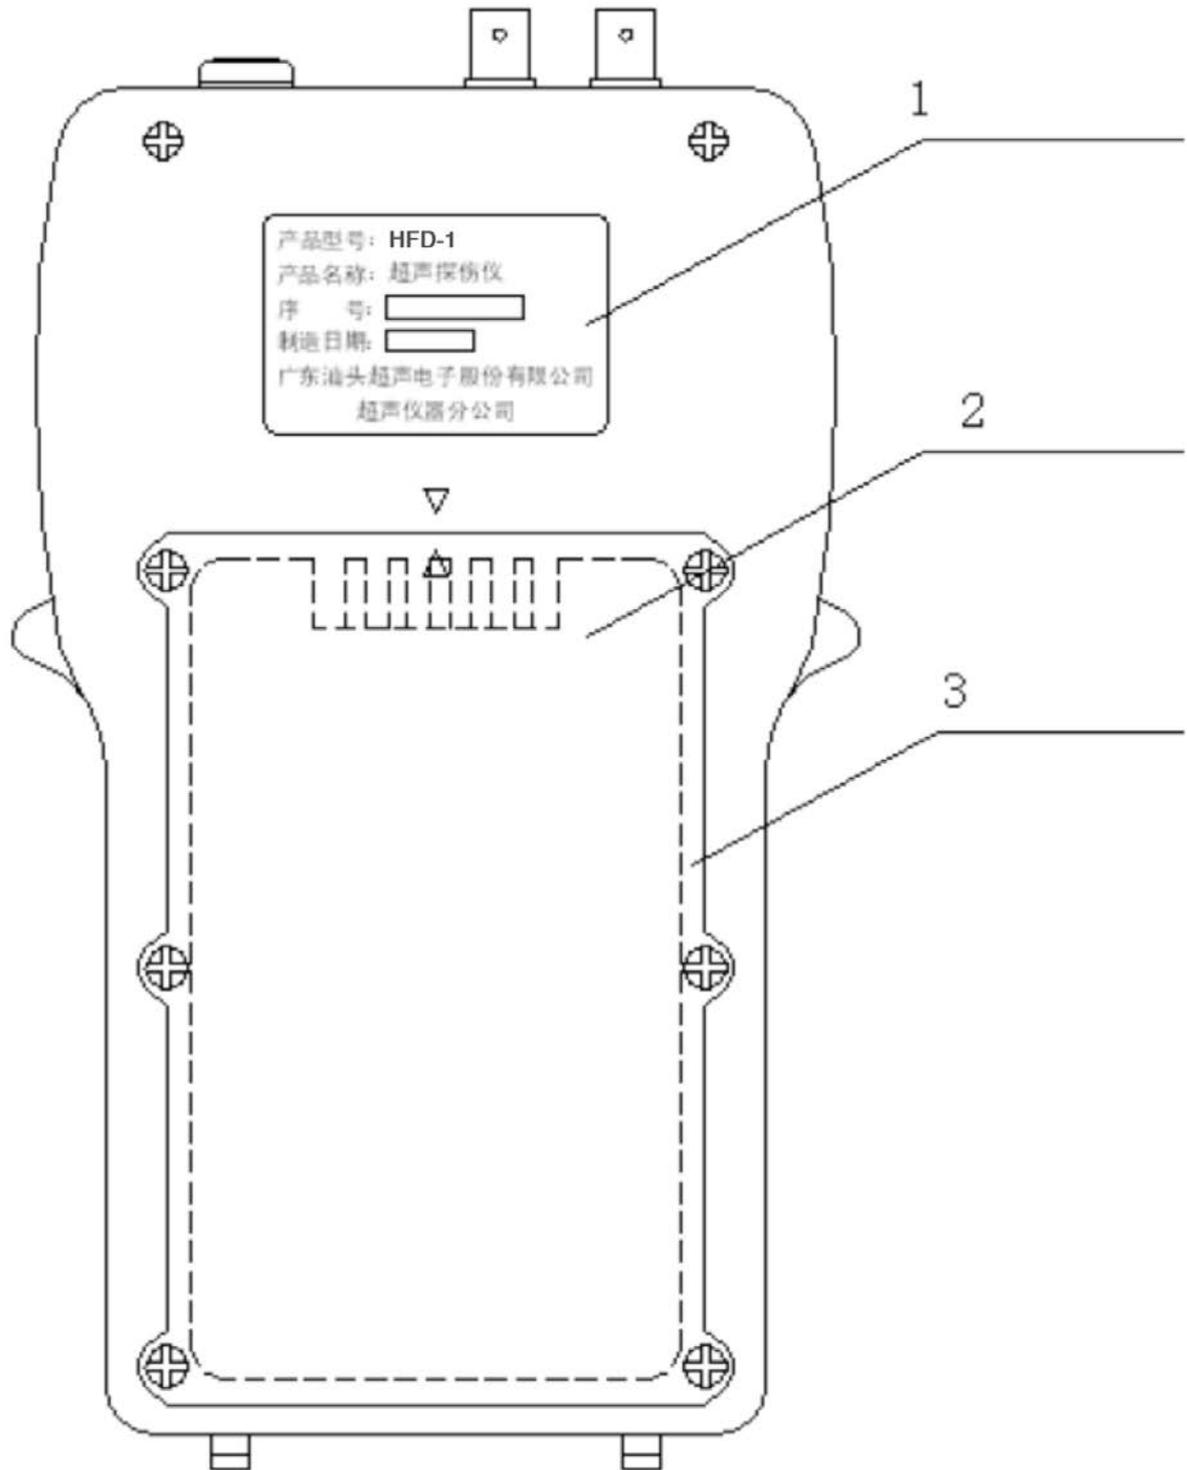

Figure 2.
2.3.2 The instrument's rear panel (figure 2):
opening the gates. To open the gates, you can go to the 1-ALARM and the 2-ALARM on the *BASIC* under the setting state. Press the cursor will move to on the display (shown in figure 2).